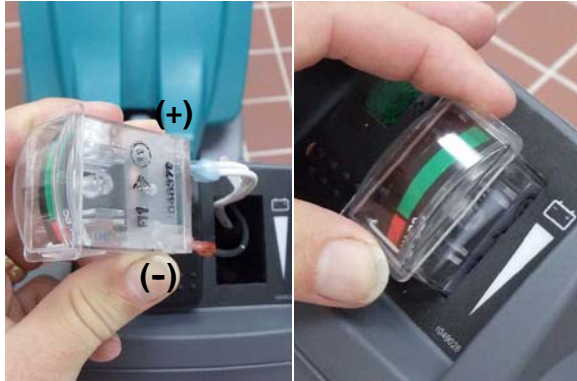

Fig. 11
11. Install the lithium-ion battery discharge gauge in its place (Figure 11). Connect white wires to positive (+) terminal and black wire to negative (-) terminal.